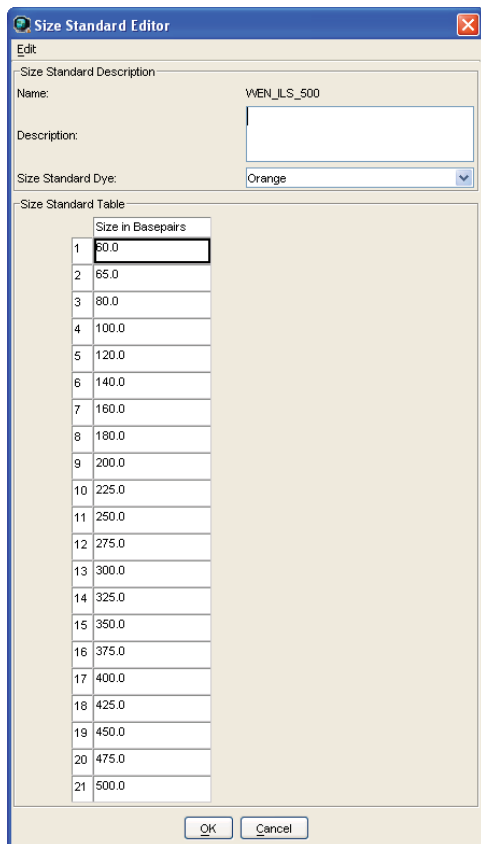

Figure 16. The GeneMapper® ID Software Size Standard Editor.
5. Enter a detailed name, such as “WEN_ILS_500”, in the Size Standard Editor (Figure 16).